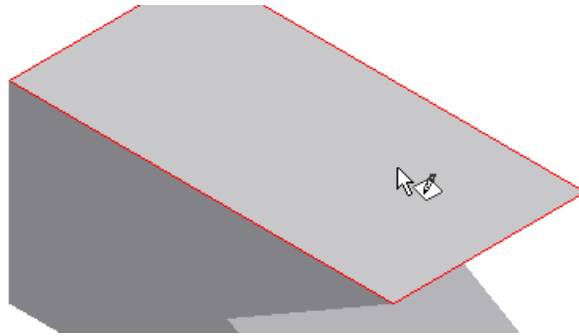

Figure 46
- ❑ View the part in isometric and select the top surface as the new sketch plane. (Figure 46)